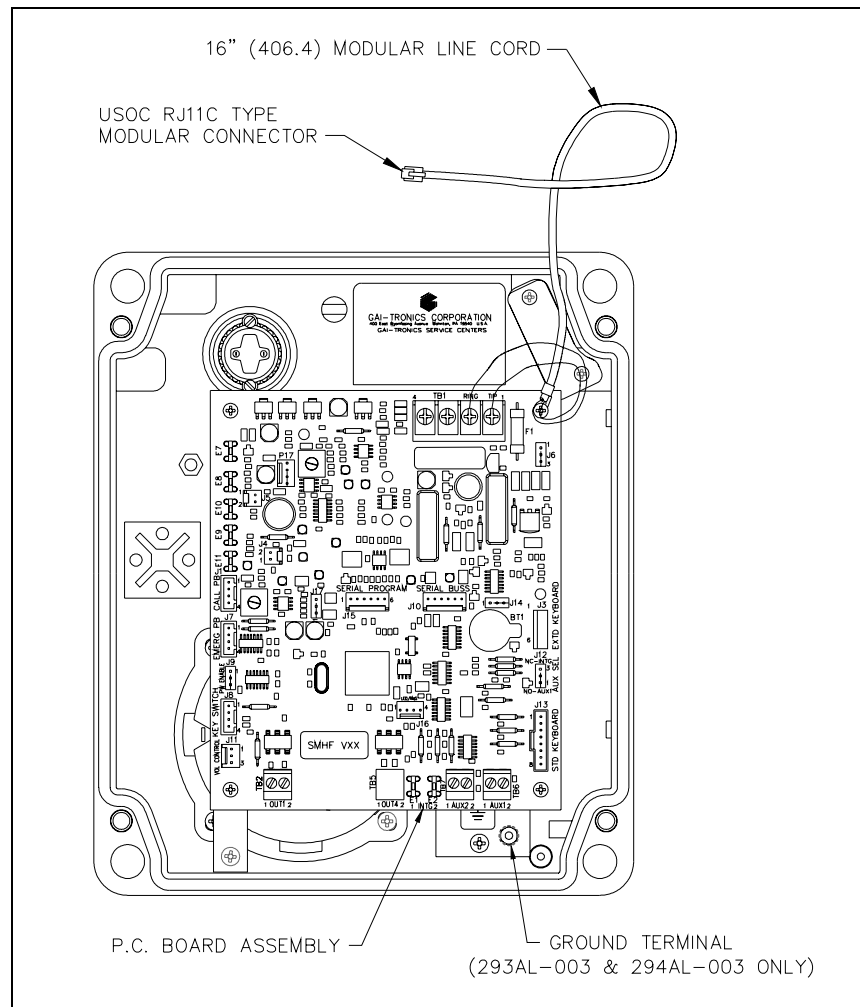

Figure 8. Model 293-003, 293AL-003, and 294AL-003 Component Locations
4. Connect the telephone's modular plug to a USOC RJ11 or CA11A (Canada) modular connector or (if applicable) the telephone line suppressor. Refer to Figure 8. Model 293-003, 293AL-003, and 294AL-003 Component Locations for the Model 297-003, 297-003TB1, 298-003 and 298-003HK1 component locations.